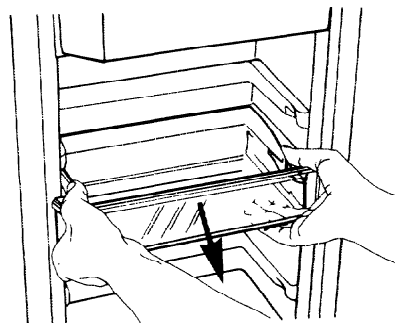

FIGURE 64
2. Push the loc-tabs toward the center with your thumbs or forefingers, whichever is easier for you. See Figure 64. While holding in the loc-tabs, pull the bucket straight out.